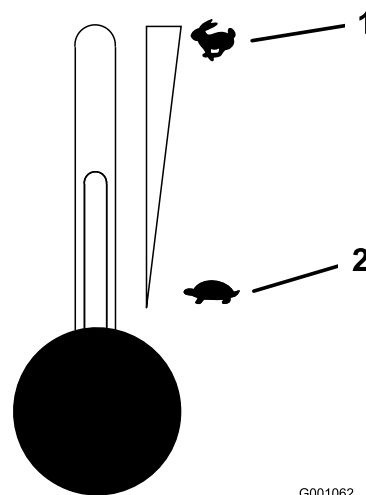

Figure 12
5. Move the throttle control to the Fast position before starting a cold engine (Figure 12).
2. Move the throttle lever midway between the slow and fast positions (Figure 12).